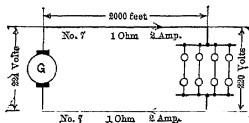

FIG. 101. Two-wire system. The 2 line wires each carry 4 times the current of 1 lamp.
Suppose that we now arrange these same lamps as in Fig. 101. By placing two in series in each case, each lamp can get its $\frac{1}{2}$ ampere, and by making the voltage across the two lamps 220 volts, each lamp has 110 volts pressure.
It would require 8×2 , or 16 volts to send the 2 amperes of Fig. 101 through this line.
50. Voltage Distribution in Three-Wire System. In using the three-wire system, every effort is made to keep it balanced. In this case, the voltage, current and power distribution differ in no respect from that of a two-wire system, with lamps, or other electrical appliances, paired off, two in series, as in Fig. 101.